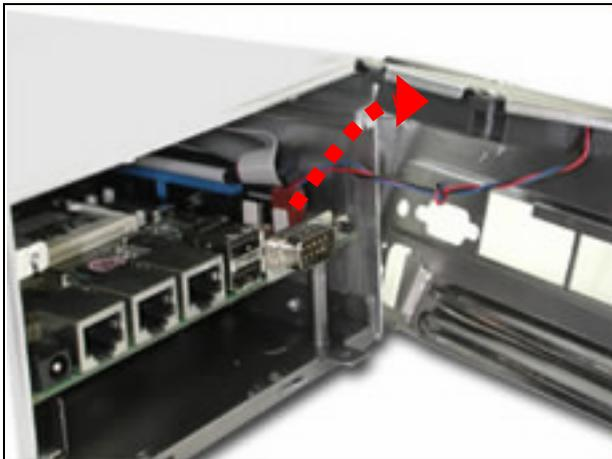

*Fig. 2-6 Take off the plastic back panel*
3. The plastic back panel can then be taken off (*Fig. 2-6*).